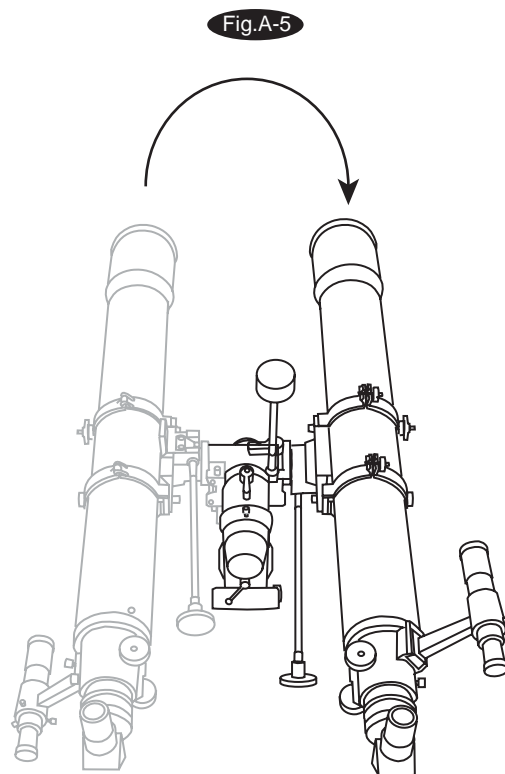

Fig.A-5
9. Loosen the R.A. lock knob and carefully rotate the telescope 180° in R.A. axis. (Fig.A-5). This should be done as accurate as possible using the R.A. setting circle.